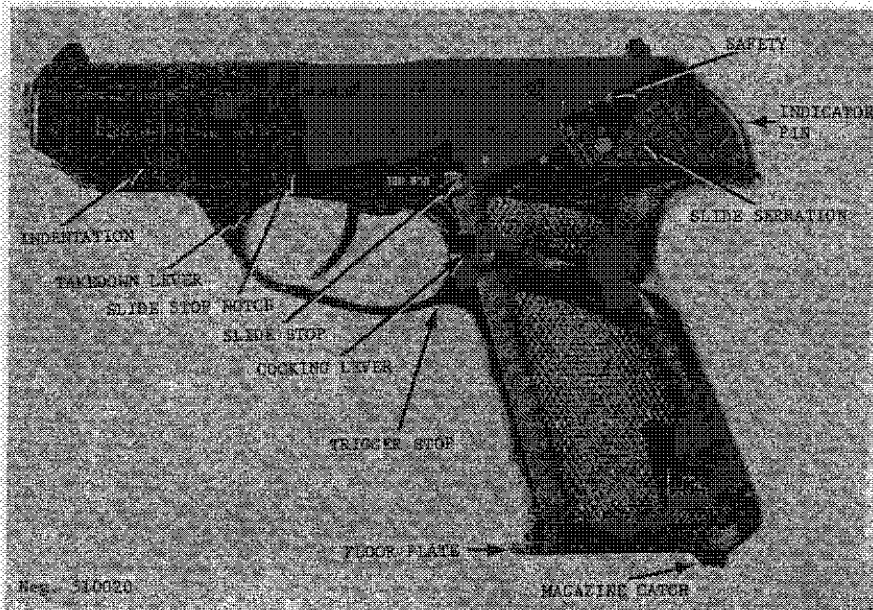

Figure 21. West German P9 pistol.
a. The 9-mm P9 and P9S pistols (fig 21) are among the most modern military pistols in the world. These weapons are unique because of the extensive use of pressed metal and plastic parts in their construction. The receiver, for example, is a light pressed-steel shell encased in plastic. The P9 and P9S pistols are almost identical, but the P9 has a single-action trigger whereas the P9S has a double-action trigger (refer to paragraph 1b). In addition to the slide marking differentiating the two pistols, the P9S has a small spur inside the trigger guard not present on the P9.
a. Press the magazine catch (fig 21) to the rear with the left thumb and, using the left index finger hooked over the magazine floor-plate, pull the magazine out of the pistol. Load the magazine as described in paragraph 3b. Insert the loaded magazine into the pistol until the magazine catch snaps into place and retains the magazine.
b. Rotate the safety (fig 21) downward as far as possible; then grasp the slide by its serrations (fig 21), pull it rearward as far as possible, and release it. The pistol is now loaded. The extractor will protrude from the bolt, indicating by sight and feel that there is a cartridge in the chamber. The indicator pin also protrudes from the rear of the receiver below the slide. At this point, the pistol can be fired or rendered fully safe.
c. To render the pistol fully safe, grasp it in the right hand and use the right thumb to fully depress the cocking lever (fig 21) and hold it depressed. Use the left thumb to rotate the safety up to the fire position, press the trigger, then ease the cocking lever upward. The indicator pin will retract into the slide, indicating that the hammer is no longer cocked. Rotate the safety fully downward.
e. To fire, if the indicator pin is not protruding, rotate the safety upward, then fully depress the cocking lever (fig 21) and release it. Aim and fire as described in paragraph d above.
g. To clear or unload, rotate the safety downward, press the magazine catch to the rear, and withdraw the magazine. Press the cocking lever (fig 21) upward and draw the slide to the rear where it will be caught by the slide stop (fig 21). Inspect to insure that no cartridges are present, then depress the cocking lever fully to release the slide. Rotate the safety upward, depress the cocking lever, press the trigger, and ease the cocking lever up. Rotate the safety down and insert the magazine, unloading it first if necessary.
a. Clear the pistol (para 33g) but do not insert the magazine. Press the takedown lever (figs 21 and 22) into the trigger guard and push the slide forward; then lift it up, off the receiver.
a. The P9 pistols are operated by delayed blow-back. When the pistol is loaded and cocked, pressure on the trigger releases the firing pin, and the cartridge is fired. The rear thrust of the cartridge, upon firing, is transmitted to the bolt and, via the rollers, to the barrel extension (fig 21). The rollers effectively lock the bolt (and slide) to the barrel. The angle on the locking cam (fig 21) does allow the rollers to cam out of their recesses and to move into the bolt as the rearward thrust of the cartridge
d. The cocking lever (fig 21), when depressed, acts upon the left side of the main cocking arm and causes the arm to rotate on its pin, forcing the hammer strut down to compress the hammer spring and cock the hammer. When the cocking lever is released, a spring returns it upward, and the main cocking arm then returns to its original position. The sear, however, has engaged the hammer and holds it cocked. Pressure on the trigger will now initiate the actions described in paragraph b above.
e. The cocking arm also fits under the top shoulder of the slide stop (fig 21). Upward pressure on the cocking arm will force the slide stop up to engage the slide stop notch (fig 21) and hold the slide open. A bottom shoulder on the slide is engaged when the cocking arm is depressed. This forces the slide stop down and releases the slide.
g. The indicator pin (fig 21) is loosely attached to the hammer. As the hammer rotates rearward, a pin on the side of the hammer causes the indicator to move rearward; this same pin pulls the indicator in when the hammer is forward.
b. The trigger stop is located in the rear of the trigger guard (fig 21). To adjust it, loosen the screw at the right rear of the guard and push the stop up into the guard about 1/4 inch. Cock the hammer and press the trigger. If the hammer does not fall, move the trigger stop slightly back into the guard until it does. When the trigger pull is satisfactory, retighten the screw. Use of the trigger stop prevents the P9S from being fired in the double-action mode.